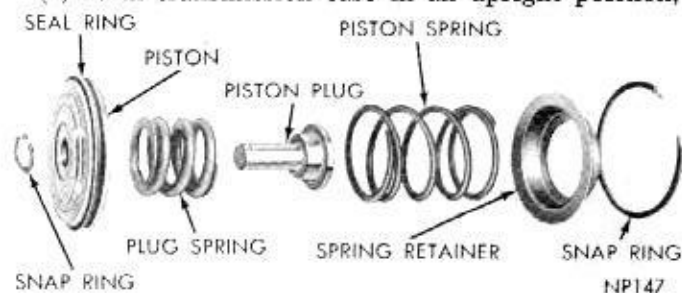

Fig. 82—Low and Reverse Servo
(1) Remove snap ring from piston and remove the piston plug and spring (Fig. 82).
(1) Carefully work servo piston assembly into the case with a twisting motion. Place spring, retainer and snap ring over the piston (Fig. 82).
(2) Compress low and reverse servo piston spring by using engine valve spring compressor Tool C-3422, then install snap ring.